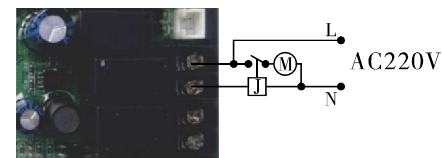

Figure3-6
F. When the signal output connector is connected with the water pump or solenoid valve, the working current is more than 5A. Its wiring refers to Figure 3-6.